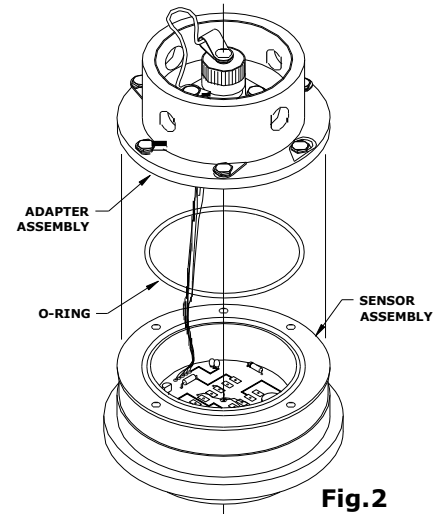

Fig. 2
5. When installing the pressure transmitter, hand tightening of the hammer union nut is recommended. Use of a hammer to tighten the hammer union nut is discouraged because inadvertent blows to the transmitter may result in damage. To ensure a watertight seal between the adapter and sensor, the O-ring, should be inspected and replaced if needed, whenever the transmitter is disassembled. (Figure 2)